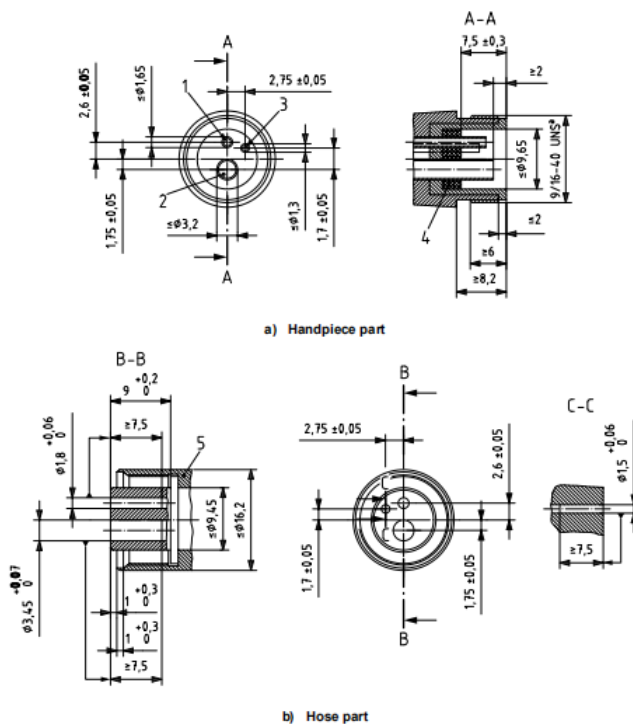
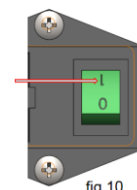

Figure 4:handpiece hose part of type 1 connector
fig 10
The type 1 connector's structure of ISO 9168 shown in figure 4 .
2: Turn the operation handle of power switch to “1” (fig 4) the unit will start immediately pressurize.(See Fig. 10).
- Release air pressure in the pressure tank by opening the drain valve (1) (Fig.10).